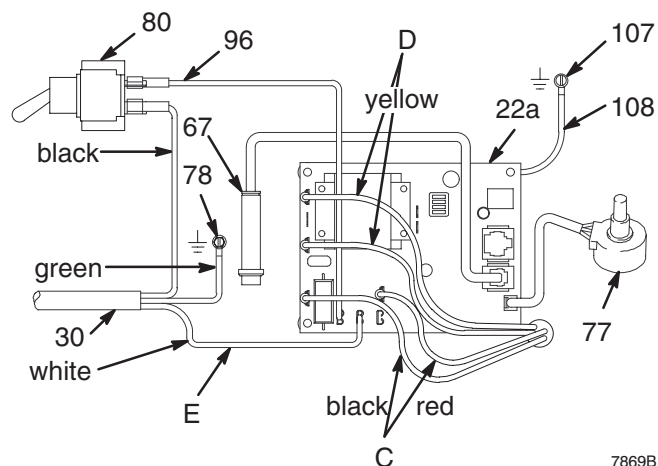

Fig. 13
4. Remove screws (25, 26). Lower control board (22a). Disconnect two leads (C) from motor to board. See Fig. 13.
1. Connect red and black motor leads (C) together with a test lead. Turn motor fan by hand at about two revolutions per second. See Fig. 13.
8. Tap lower rear of drive housing (2) with a plastic mallet to loosen motor. Pull drive housing straight off motor while guiding pressure transducer wire (A) from motor. Do not allow gear (13) to fall. Read CAUTION on page 26.
9. Remove four screws (75) and lift motor off cart (70).
10. Align new motor with cart and reinstall screws (75).
12. Connect wires to motor control board (22a). Refer to Fig. 13. Install motor control board.
13. Connect piston rod (222) to drive housing; see page 22, **Installing Pump**, Step 2 and WARNING following it.
14. Install shroud (32) and drive housing cover (11).
3. Disconnect wires (C), (D), (96), (E) and 108 from motor control board (22a). See Fig. 13.
4. Disconnect potentiometer (77) and transducer (67) from motor control board (22a).
6. Install new motor control board (22a) with four screws. Reconnect all wires and secure heat sink (22) to junction box (20).